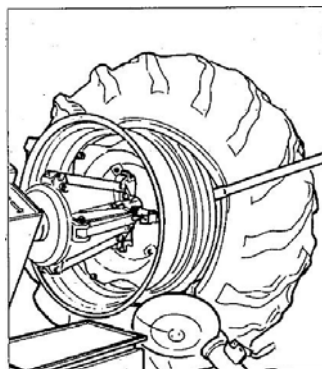

Fig.7.12
- 13) Insert lever LA between rim and bead, at the right of the tool (See Fig. 7.12).